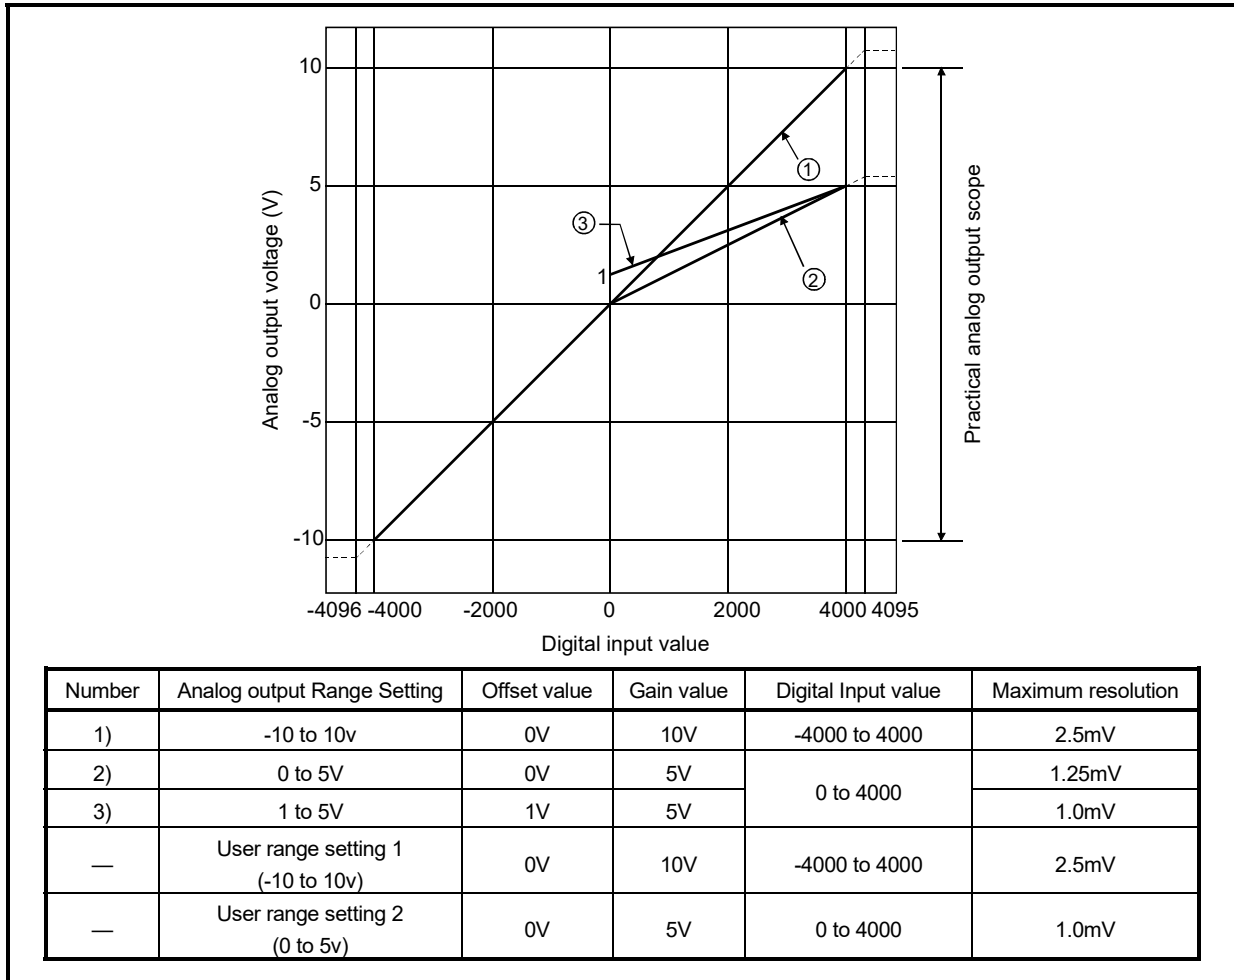

Fig. 3.1 Voltage Output Characteristic
<p>(1) Within the digital input and analog output scopes of each output range, the maximum resolution and accuracy are within the performance specification range. Outside those scopes, however, they may not fall within the performance specification range. (Avoid using the dotted line part in Fig. 3.1.)</p> <p>(2) Set the offset and gain values of the user range setting within the range satisfying the following conditions.</p> <p>(a) Setting range when user range setting 1 is selected: -10 to 10V</p> <p>(b) Setting range when user range setting 2 is selected: 0 to 5V</p> <p>(c) (Gain value) > (Offset value)</p> <p>If you attempt to make setting outside the setting range of (a) or (b), the "RUN" LED flickers at 0.5s intervals. Set the values within the setting range.</p> <p>If you attempt to make setting outside the setting range of (c), the "RUN" LED flickers at 0.5s intervals. Make setting again.</p>